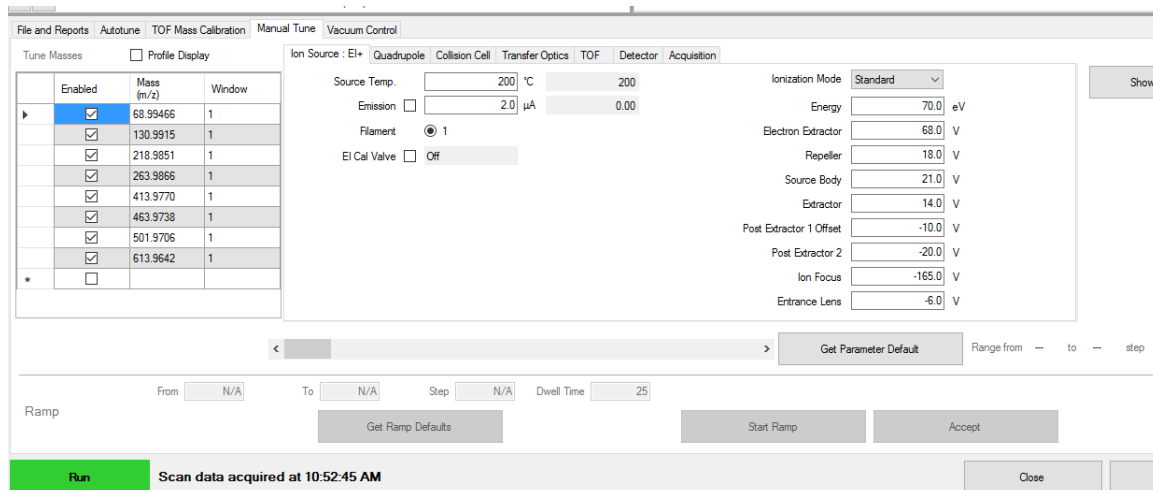

Figure 9. Setting temperatures
- 1 In **Instrument Control** panel, select the **MS Tune** icon  to display the **Tune** dialog box. Select the **Manual Tune** tab then select the **Ion Source** tab to display the ion source parameters. (See **Figure 9**, "Setting temperatures," on page 46.)